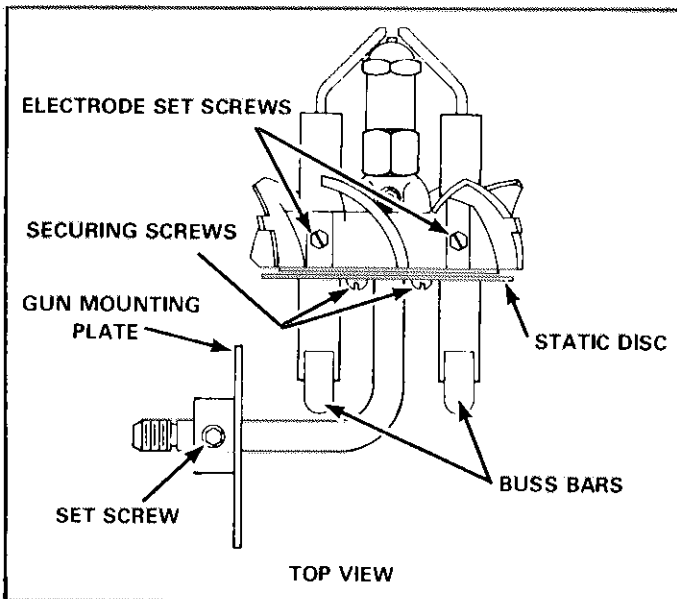

FIGURE 9
- 1 - Loosen set screw and remove gun mounting plate. Refer to Figure 9.